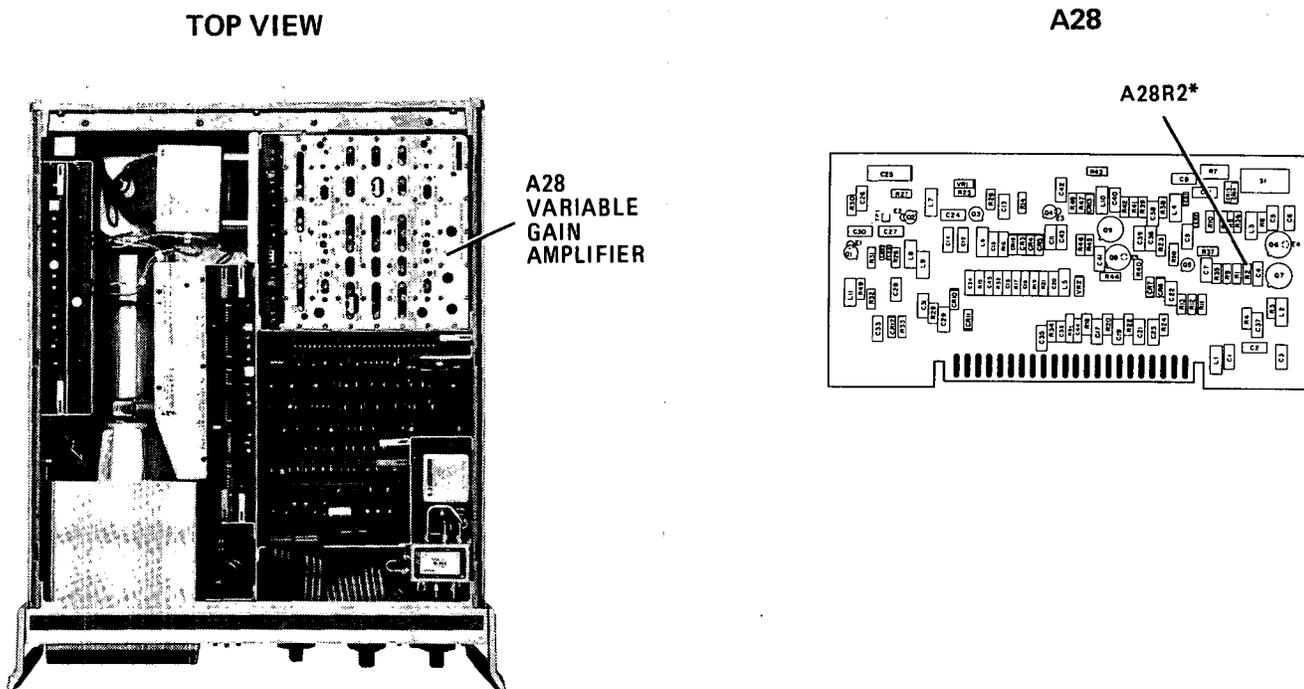

Figure 5-62. Absolute Amplitude Calibration Adjustment Locations
5. Note distance of signal peak (in dB) from third horizontal graticule line from bottom of display. For every dB signal peak is separated from this graticule line, change value of factory-selected resistor A28R2\* (Figure 5-62) by 10 percent. (An increase in resistance increases signal level.) When signal is within 1 dB of graticule line, proceed to step 6.